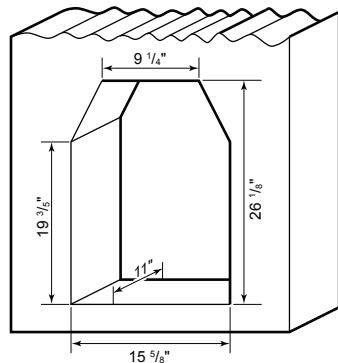
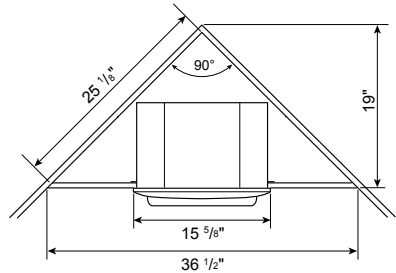

Figure 8 - Rough Opening for Wall Installation
Figure 9 - Rough Opening for Corner Installation
1. Frame in rough opening. Use dimensions shown in Figure 8 for the rough opening. If installing in a corner, use dimensions shown in Figure 9 (page 13) for the rough opening. The height is 19", which is the same as the wall opening above.